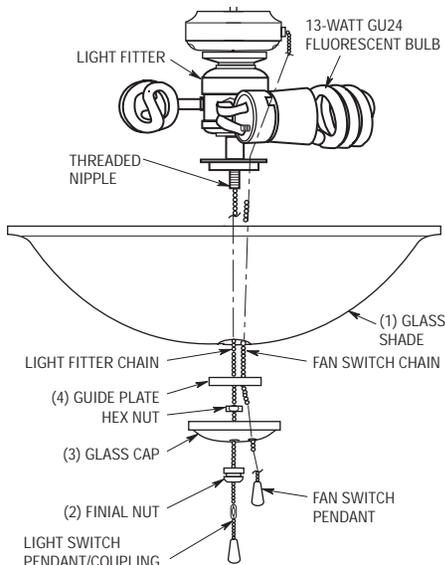

Figure 7
1. Remove the pendants from the fan and light switch chains (Figure 7).
2. Hold the glass shade(1) securely while removing the finial nut(2), glass cap(3), hex nut and the guide plate(4) (Figure 7).